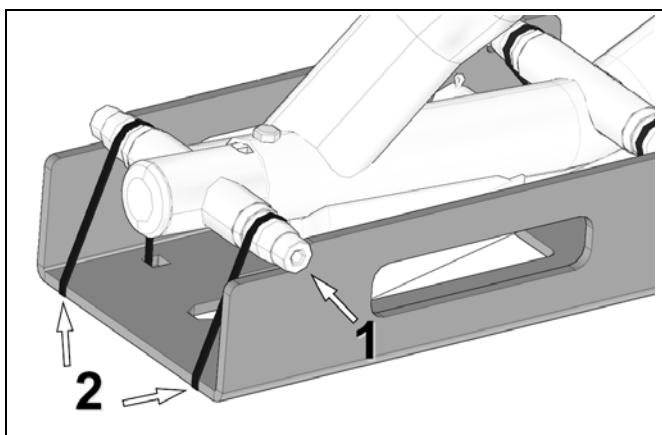

Figure 38
Position tensioner wheel axle ends in the corner notches (1) of the tool. Attach alignment tool to the track system frame using the provided tie wraps (2) Refer to Figure 38.